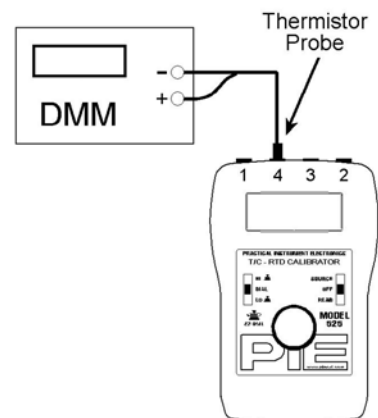

FIGURE 6 (Cold Junction Cal)
1. Connect the thermistor probe to the brass block marked ‘4W’ (which is thermally-bonded to the temperature sensor and the Omega© connector. (See Figure 6).